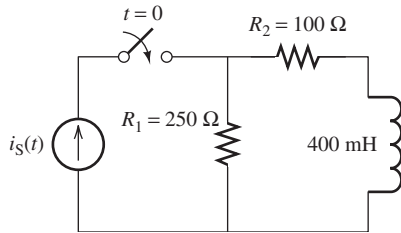

FIGURE P5.53 Circuit for Problem 5.53.
5.53 (A) The switch closes at $t = 0$ s. Given that the current source is $i_S(t) = 4\cos(100t)$. Find the voltage across the resistor R_2 for the circuit shown in Figure P5.53.